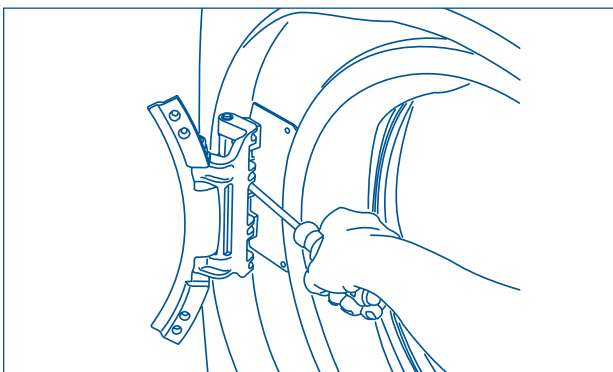

Figure 2-13.
2. Remove 3 short, fine-thread, counter-sunk screws in hinge side. (See Figure 2-13)